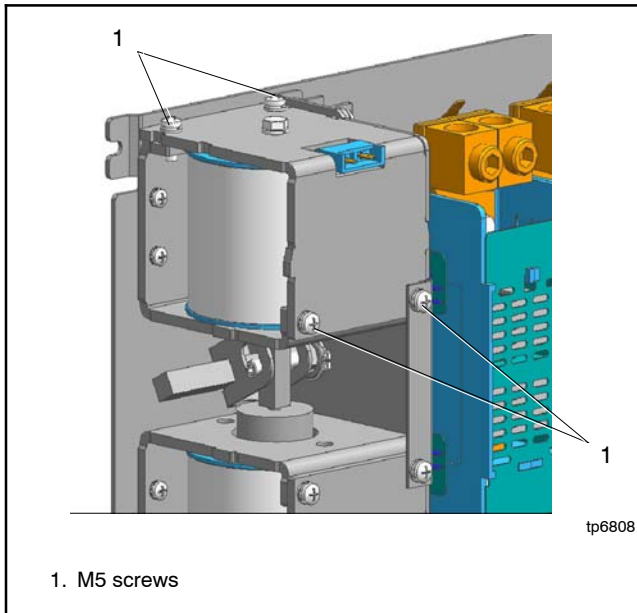

Figure 7-25 Install Coil Assembly
4. Tighten the M5 screws at four locations. Tightening torque for the M5 screws: 3 Nm. See Figure 7-25.